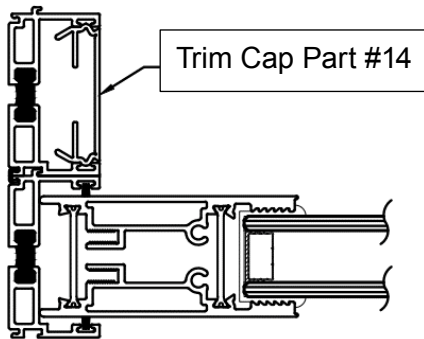

FIGURE 20A
24. Install the remaining trim caps into the interior jamb tracks shown in figures 20a and 20b.